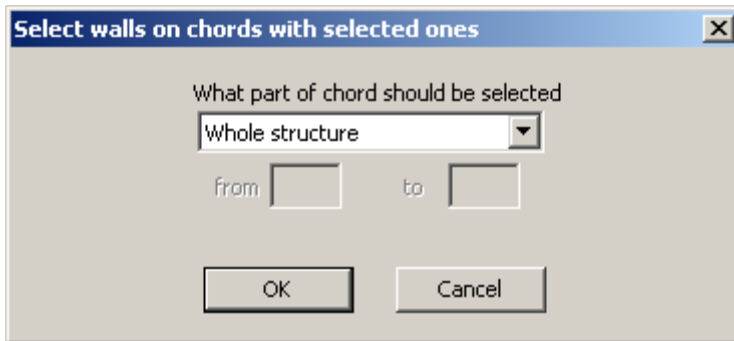

Figure 1.16.4 **Select walls on chords with selected ones** dialog box
- ⇒ In the **Select walls on the same chords with selected ones** dialog box (see Fig.1.16.4), remain all parameters with default values and click **OK**.